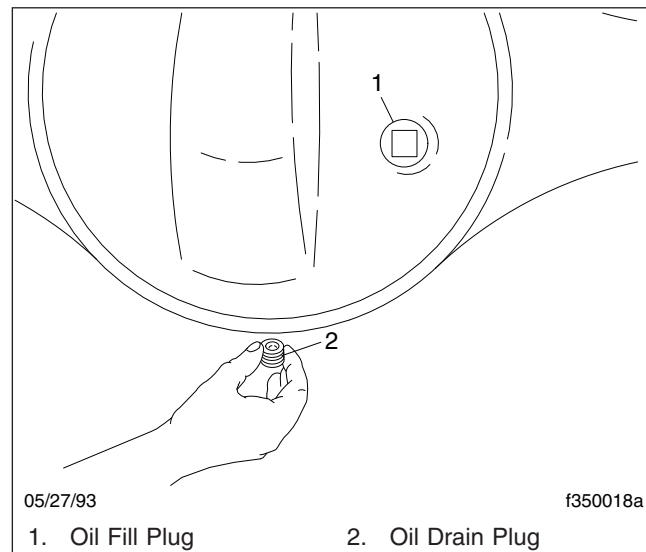

Fig. 4, Dana Spicer Axle Housing Drain and Fill Plugs
2. Clean the fill plug and the area around it. In the axle housing rear cover, remove the plug from the oil fill hole (or standpipe, if installed in the oil fill hole); see Fig. 4.
3. Place a drain pan under the rear axle drain plug; see Fig. 4. Drain the oil at normal operating temperature, 150°F to 200°F (65°C to 93°C). At this temperature, the oil will run more freely and ensure that the axle is flushed.